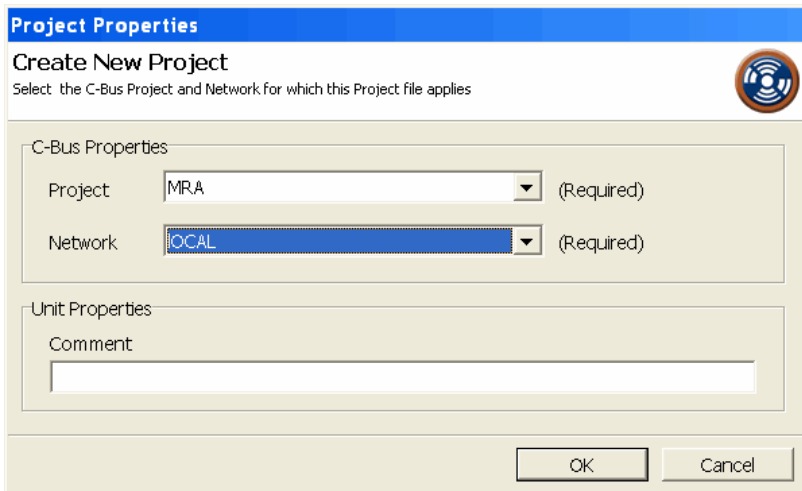

Figure 40 – Selecting the C-Bus project and network
- 2) Select the C-Bus project you created in Toolkit, then select the network (Figure 40). Click OK.